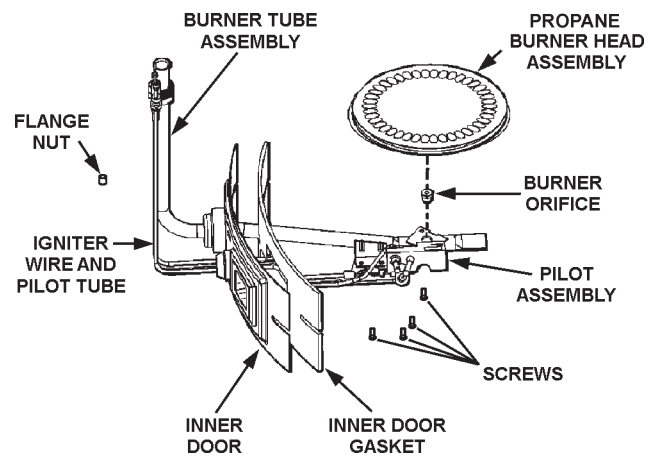

FIGURE 17.
- Remove the two Phillips-head screws holding the natural burner head to the burner tube assembly, see Figure 17.
- Using 3/8" boxed-end wrench remove the natural gas burner orifice "O" from the burner tube. Install burner orifice marked "LP" and tighten securely, see Figure 17.
- Locate and install the propane burner head to the burner tube using the two Phillips-head screws, see Figure 17.